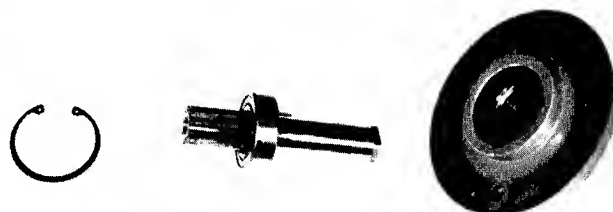

FIG. 10.8--SHAFT AND BEARING REMOVED
5. Remove retaining ring from housing and bump shaft and bearing out. Fig. 10.8